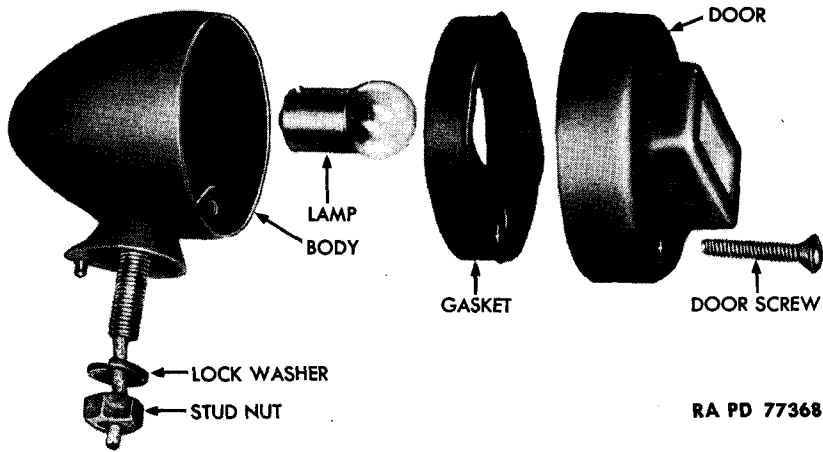

Figure 100 – Blackout Marker Light Disassembled
(1) DESCRIPTION (fig. 100). Two blackout marker lights are mounted, one on each side, on brush guard at front of vehicle. Lens in door of light is covered except for two small, translucent, triangular portions. Door is shaped so that triangles are visible only from a straight-ahead position; thus no beam is cast, and light serves only as a marker. Light contains a conventional single-contact socket.
(2) TABULATED DATA.